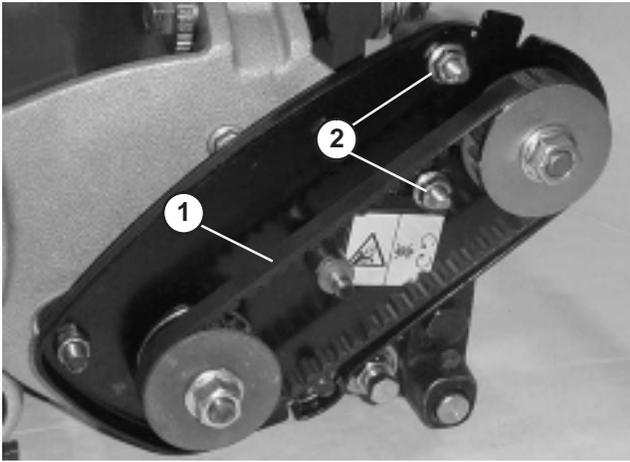

Figure 38
- Loosen the bearing housing mounting nuts (Fig. 38).
C. Tighten the bearing housing mounting nuts (Fig. 38). **Do not over-tension belt.**
- A. Loosen the bearing housing mounting nuts (Fig. 38).
- C. Tighten the bearing housing mounting nuts (Fig. 38). **Do not over-tension belt.**